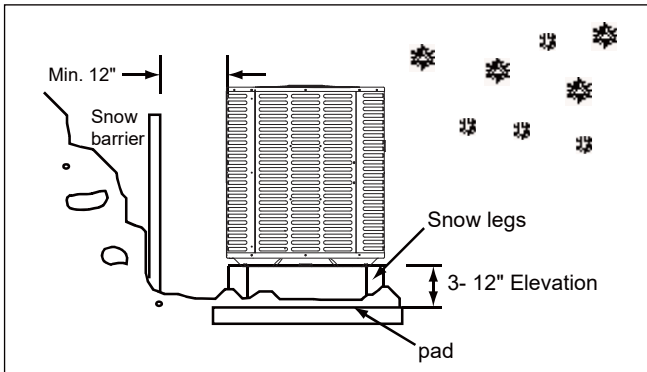

Figure 4
- Units should be elevated 3-12 inches above the pad or rooftop, depending on local weather. This additional height will allow drainage of snow and ice melted during defrost cycle prior to its refreezing. Ensure that drain holes in unit base pan are not obstructed, preventing drainage of defrost water (Figure 4).